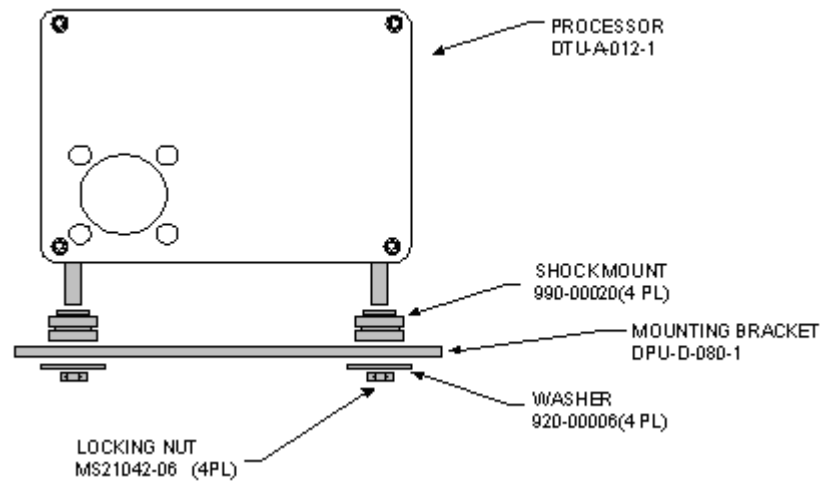

Figure B- 2: DTU/Gen III Processor to Bracket Mounting
- 040 Install six (6) NAS1836-3 potted inserts in accordance with manufacturer's instructions
- 050 **For installations in a metal skin**, using the supplied mounting bracket (DPU-A-082-1) as a template, mark the location of the two (2) additional mounting holes and drill to accommodate a #10 screw.
- 060 Assemble the DTU and Gen III processors to the mounting bracket as shown in Figure B- 2
- 010 Assemble the DTU to the "Double Stack" mounting bracket P/N DPU-D-080-1, as shown in Figure B- 2.
- ❑ 010 **For installations in a honeycomb/sandwich panel**, when a location has been determined for the DTU processor, using the supplied mounting bracket (DPU-D-098-1) as a template, mark the location of the four (4) holes and drill to accommodate a NAS1836-3 potted insert.
- ❑ 020 Install four (4) NAS1836-3 potted inserts in accordance with manufacturer's instructions
- ❑ 030 **For installations in a metal skin**, when a location has been determined for the DTU processor, using the supplied mounting bracket (DPU-D-098-1) as a template, mark the location of the four (4) mounting holes and drill to accommodate a #10 screw.
- ❑ 040 Assemble the DTU processor to the mounting bracket as shown in Figure B- 2